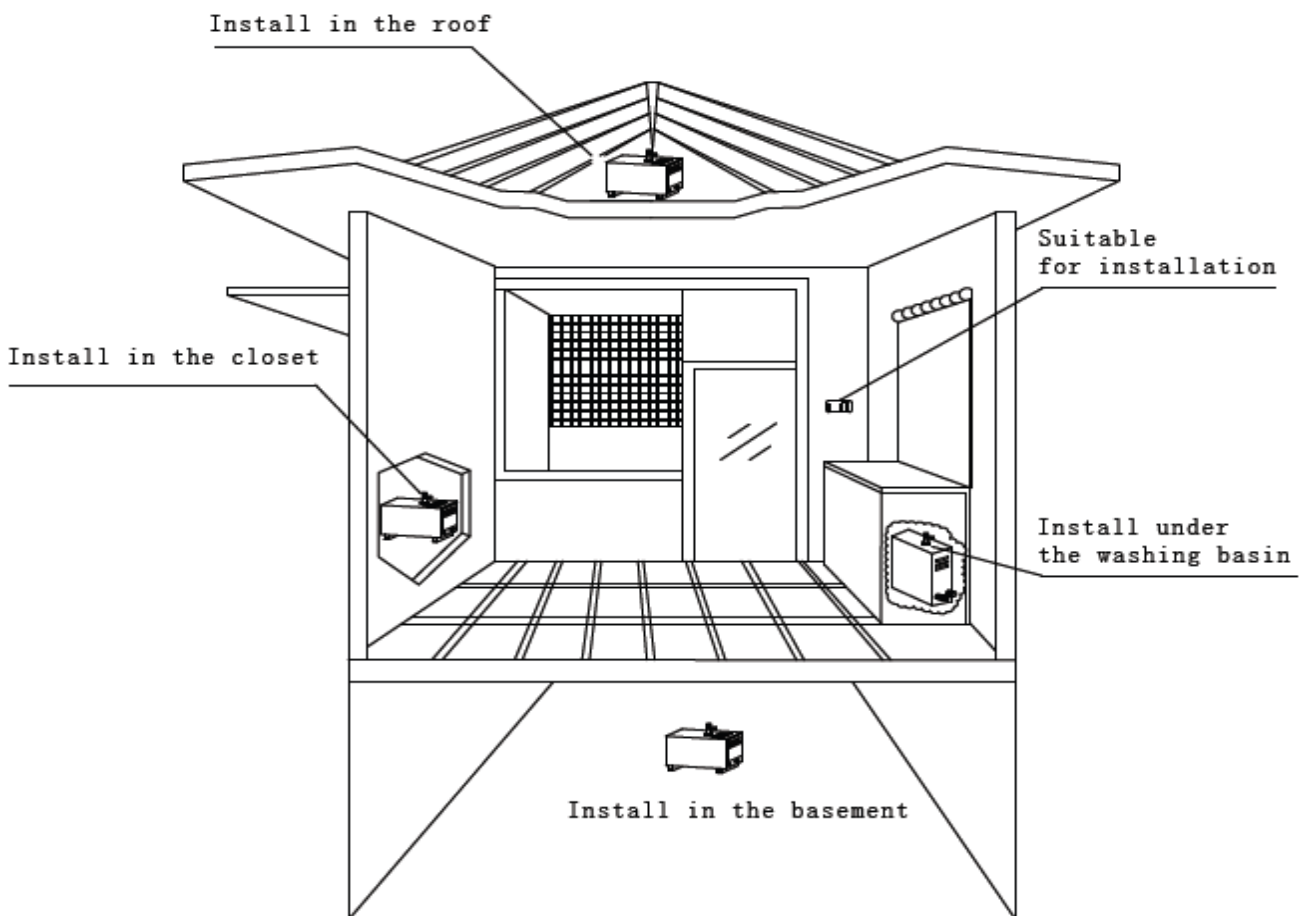

Figure 1: Location of Installation
- A) The steam generator should be installed in a dry, well ventilated location, and provided adequate drainage. You can install the steam generator under a closet, attic, shelf, or basement. And it must be locked without movement. Please See Figure1.